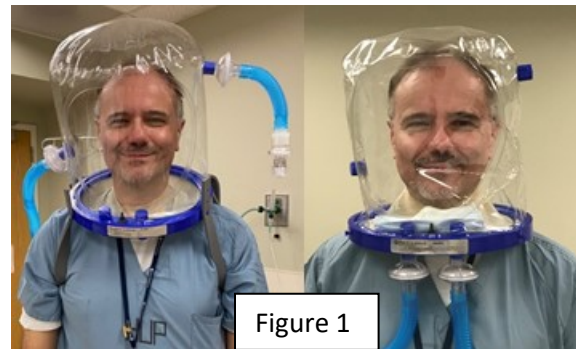
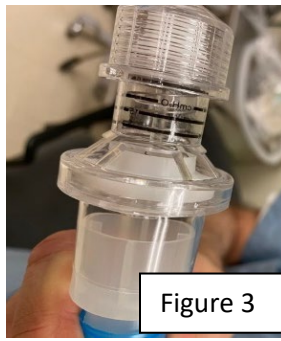
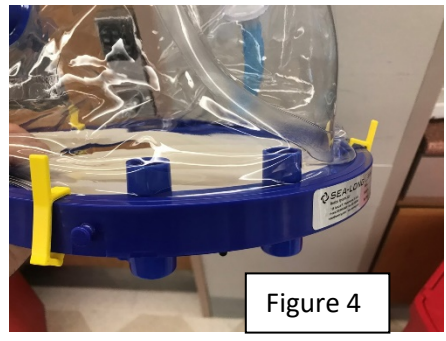

Figure 2
Figure 3
Figure 4
**Helmet circuit assembly:** Helmet circuit is preassembled (Figure 2). Ensure that blue caps are removed from helmet and placed over the helmet base open ports (do not throw away). For the helmet base, pre-cut to approx. 13in, if too small, may need to customize. Use tape measure to obtain neck size, cut with sharp scissors to approx. 2 inches less than neck size to assure proper seal. Make sure PEEP valve is connected to expiratory limb and set at desired PEEP (Figure 3). Ensure four clips are in place to avoid undesired opening (Figure 4). Make sure antimicrobial filters are present on both the inflow and outflow limbs.